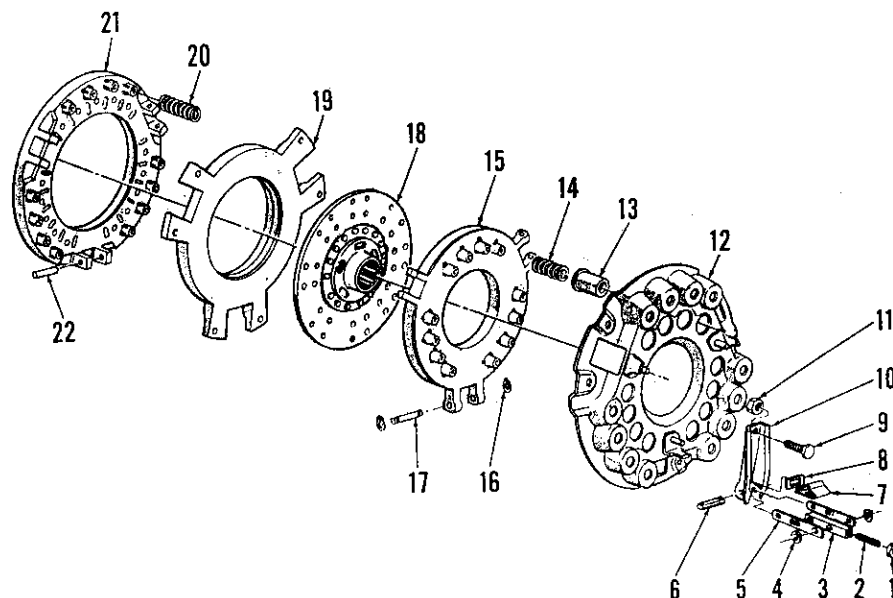

Fig. 179—Exploded view of double disc clutch assembly.
To disassemble the removed double clutch, mount the unit on a suitable disassembly tool or on the bed of a press and use a tripod fixture to apply pressure to cover (12—Fig. 179). With pressure applied, remove struts (6) and cotter pins retaining release levers (10). Do not lose or intermix clip shims (8) as levers are removed. Lift off levers and remove pto pressure plate pins (17), then slowly release the pressure and disassemble the clutch unit.
Set release lever height to 2.110 inches, measured from hub of pto friction disc (18—Fig. 179) to top of adjusting screw (9), after clutch is installed on flywheel. Adjust release lever height by loosening locknut (11) and turning adjusting screw (9) as necessary. All levers must be adjusted to the same height within 0.010 inch.